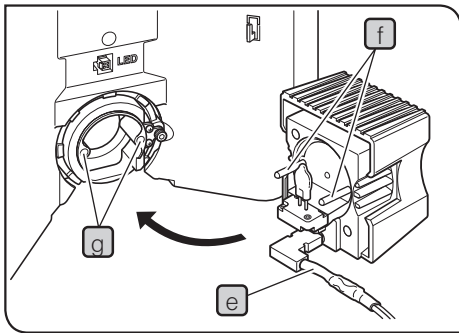

Fig.46
- 2 Insert the lamp cable (e) in the direction shown in Fig.46.